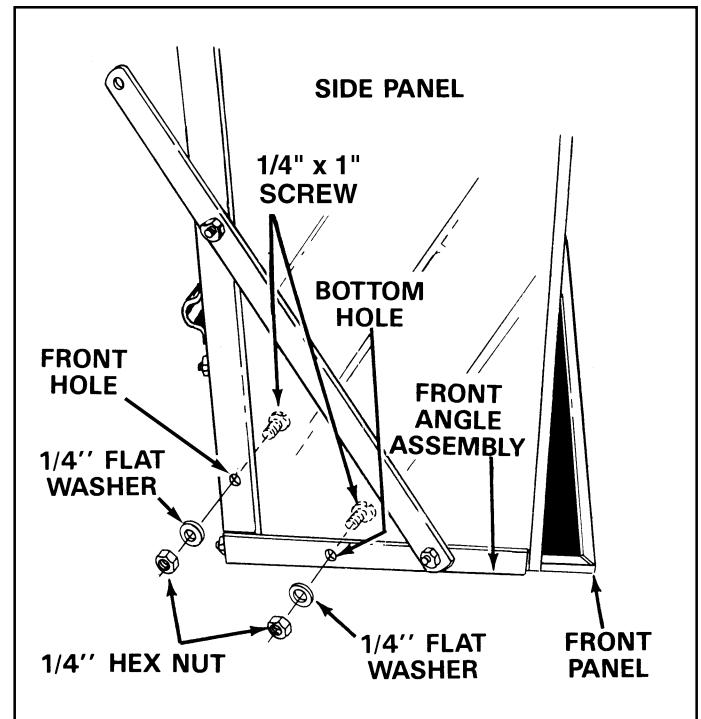

FIGURE 8
12. Start one 1/4" x 1" screw through the bottom hole in the side panel and the front angle assembly. Start another 1/4" x 1" screw through the front hole in the side panel and the side angle. Secure with two flat washers and two hex nuts, **making only finger tight at this time.** See figure 8.
14. **Tighten** all nuts and screws securely at this time, **except** for nuts and screws in axle clamps. See figure 8.